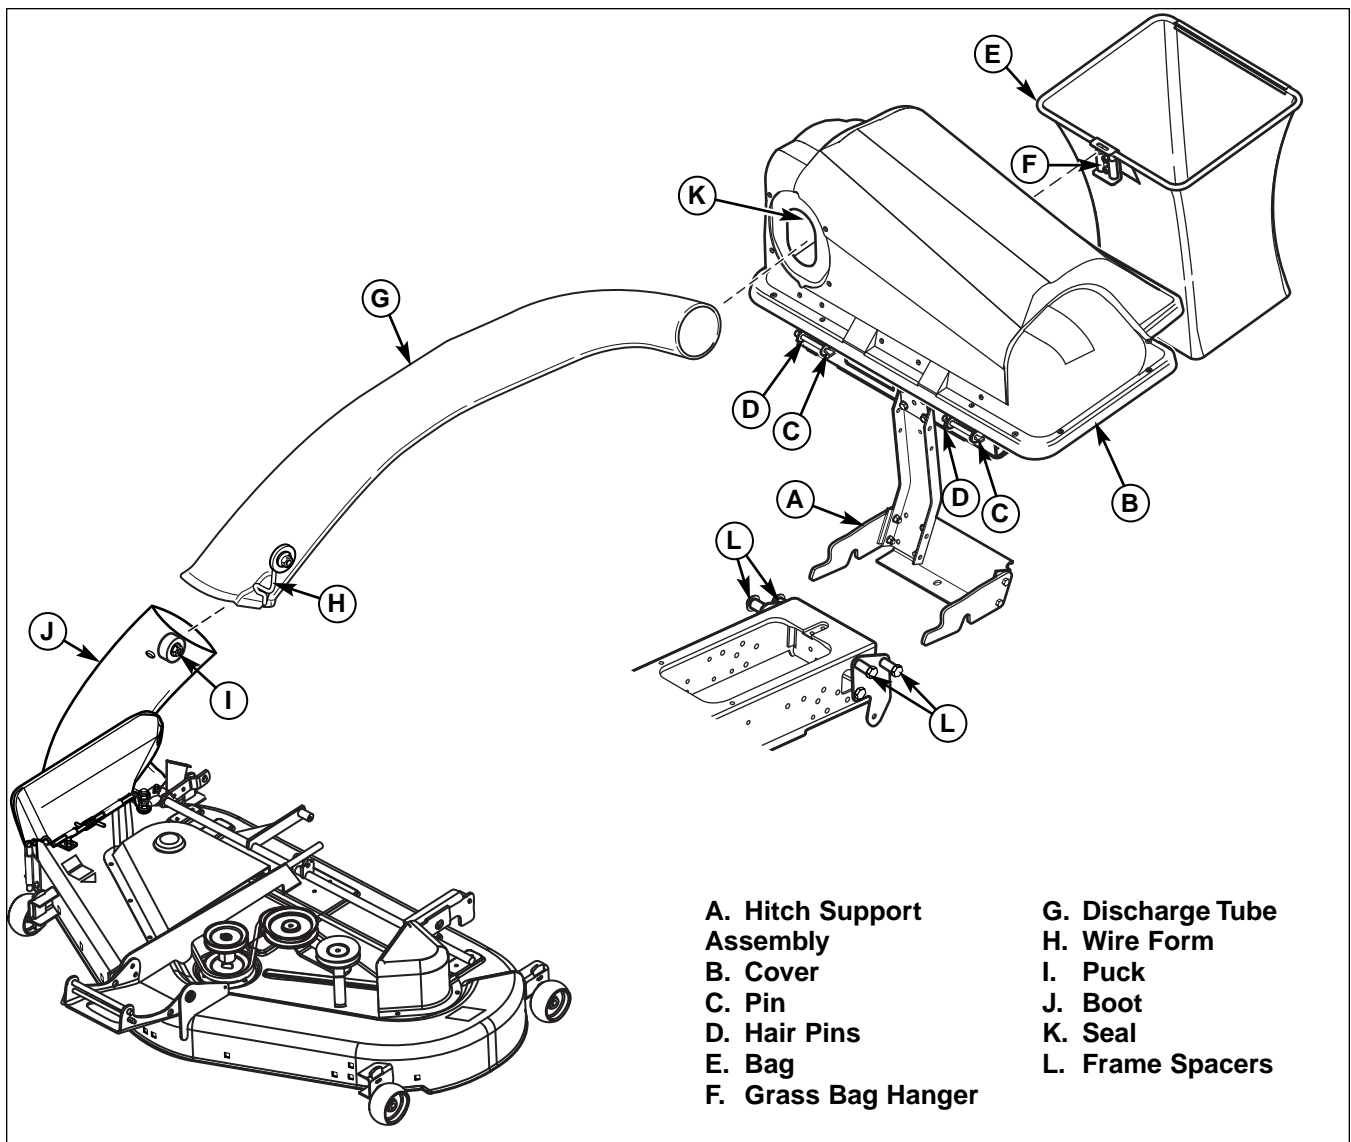

Figure 14. Normal Installation & Removal
1. Disconnect the discharge tube (G, Figure 14) from boot (J) by moving wire form (H) up and out from metal puck (I). Remove discharge tube (G) from seal (K).